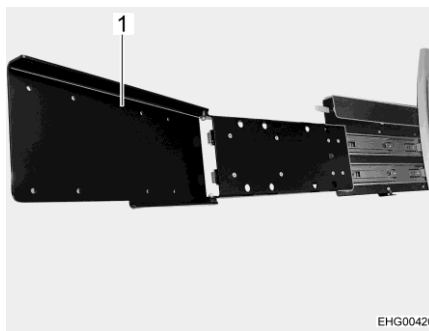

Fig. 84 Pull-out (extended and folded)
- To turn the flat screen to the rear area: fold pull-out (Fig. 84,1).